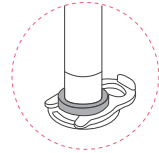

Figure 14
**NOTE:** Make sure it is fully inserted until you reach the mark on the tubing and pop up the lock clips into every water port to avoid leaking water (Figure 14).